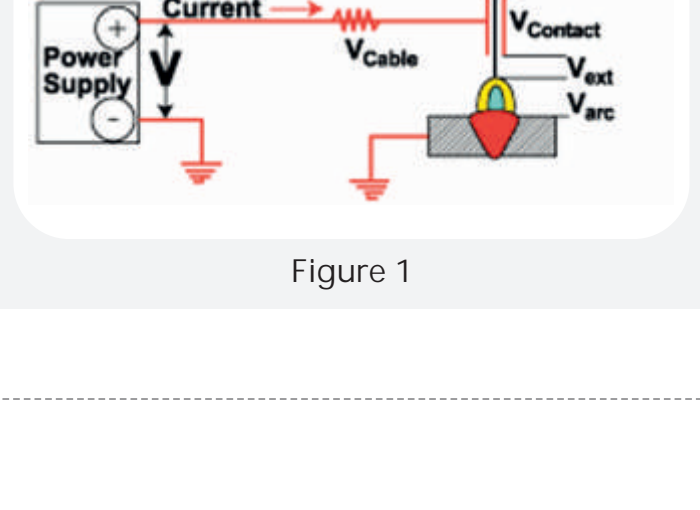

Figure 1
**Arc Failures.** Burnback, bad starts, and other similar faults are, by far, the most common causes of downtime and result in lost productivity. These arc failures occur when factors that maintain steady arc burning are unbalanced (see Figure 1).